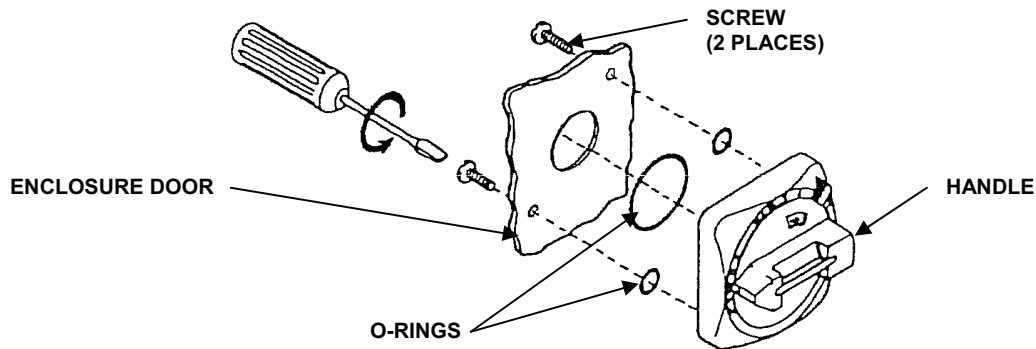

Figure 2. Handle Mechanism.
2. Remove two (2) screws and O-rings from rear of handle mechanism. See Figure 2.
1. Install handle mechanism on enclosure door of control module. See Figure 2.